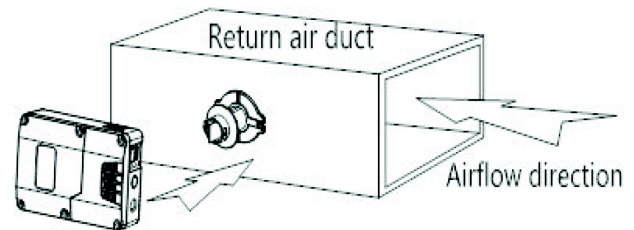

Fig. 8.
3. Install the main unit. Connect the main unit horizontally with the pitot tube interface as shown in Fig. 8.